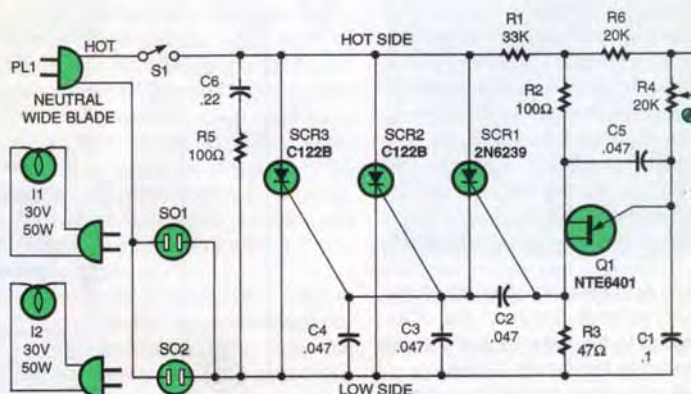

Fig. 2. Here's the schematic for the Lighting System. Lamps I1 and I2 plug into AC sockets SO1 and SO2, providing two efficient sources of light.
**Circuit Description.** The schematic for the Lighting System is shown in Fig. 2. Plug PL1 connects to a standard 117-VAC outlet to provide power for the circuit. A capacitive/resistive filter made up of C6 and R5 eliminates SCR tracking of